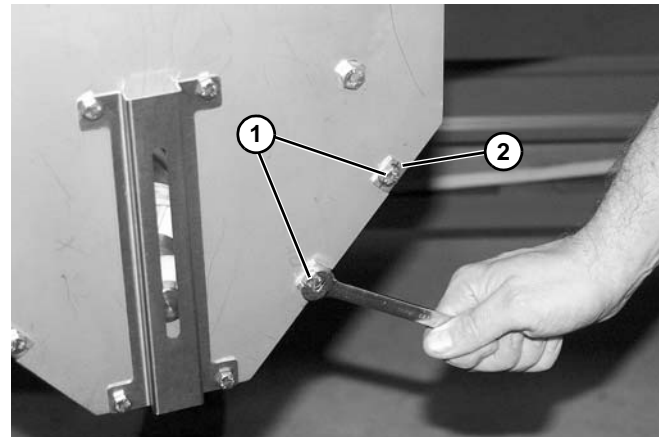

Figure 90
5. Remove two hex head screws (Figure 90, item 1) on each side, and remove guard plate (Figure 90, item 2).